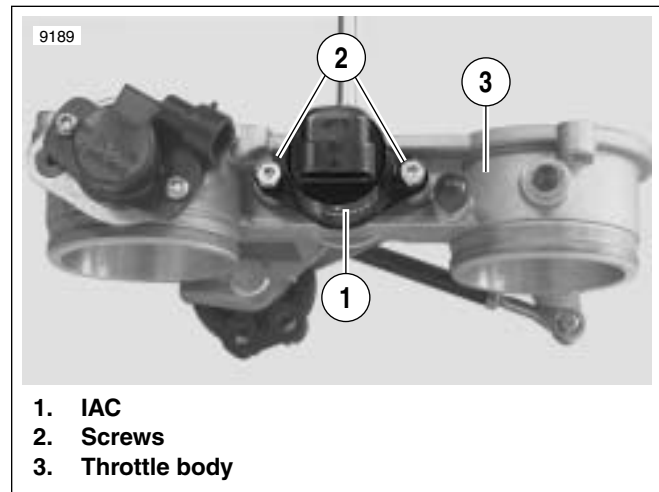

Figure 4-35. IAC Removal
6. See Figure 4-35. Using heat gun, apply heat to idle air control screws (2) to break LOCTITE® patch. Remove screws.
7. Pull IAC (1) and o-ring from throttle body (3).
4. See Figure 4-35. Apply LOCTITE® TREADLOCKER 243 (blue) to screws (2). Loosely install front and rear IAC screws (2).